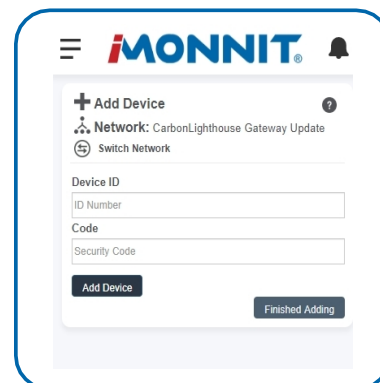

Figure 3
3. Adding your device. See Figure 3.